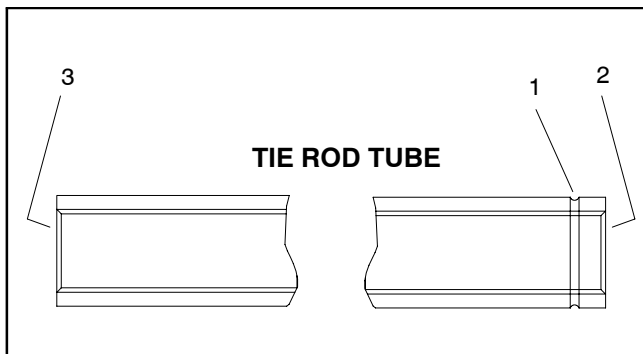

Figure 6
A. Position tie rod assembly to spindle and pitman arm so that tie rod groove (LH threads) is orientated toward the left side of the machine (Fig. 6).